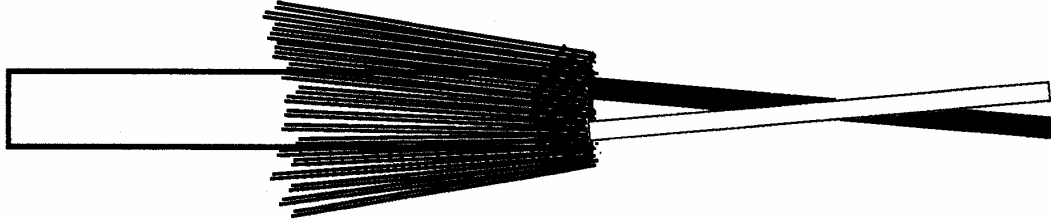

Figure 5-9. Inner Braid Preparation: Twinaxial Cable with Inner Braid
7. If inner braid is present, comb it out and fold it back over the jacket as shown in Figure 5-9.